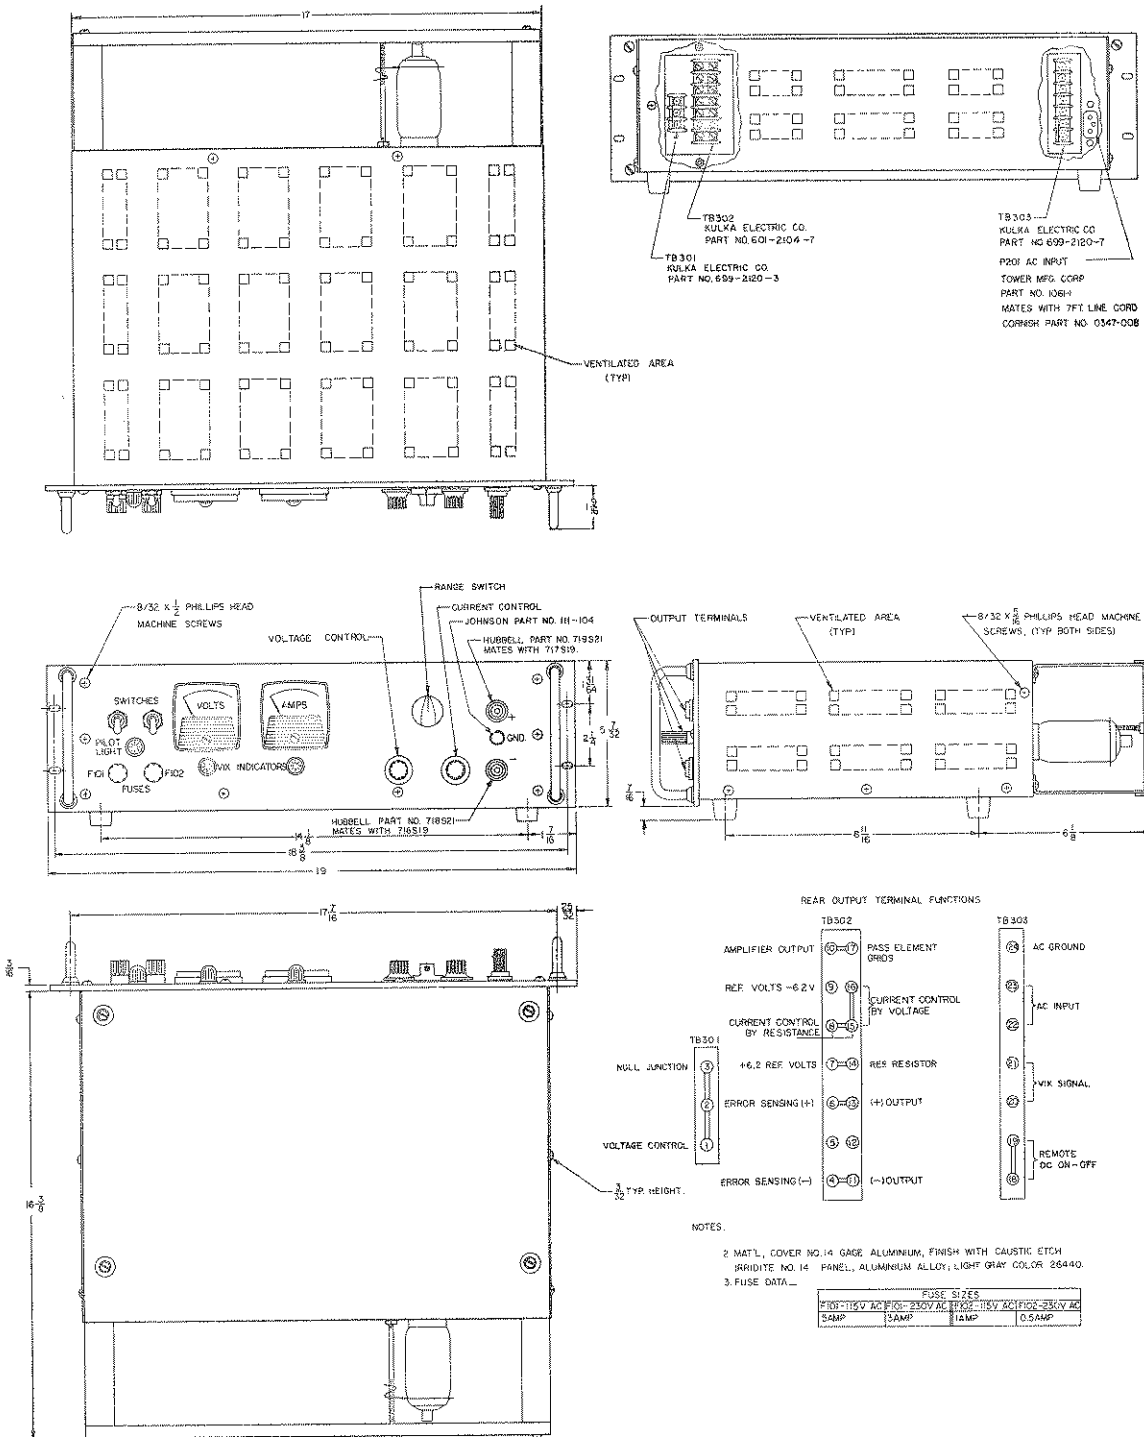

FIG. 1-3 MECHANICAL OUTLINE DRAWING.
- b) TERMINALS AND CONTROLS: Refer to "Mechanical Outline Drawing" (FIG. 1-3) and Section II (par. 2-3).
- c) DIMENSIONS AND FINISH: Refer to "Mechanical Outline Drawing" (FIG. 1-3).
- b) SIGNAL GROUND. The d-c output is isolated from the a-c power line and from any direct connection to chassis or ground. The negative side of the output is connected to chassis through a capacitor in series with a resistor.* The maximum voltage that can be supported between either output terminal and ground or chassis is 1000V d-c plus the maximum output voltage of the power supply. Either side of the output may be grounded. Convenient grounding terminals are provided at the front panel binding post or at the rear barrier-strip. (Refer to FIG. 1-3.)